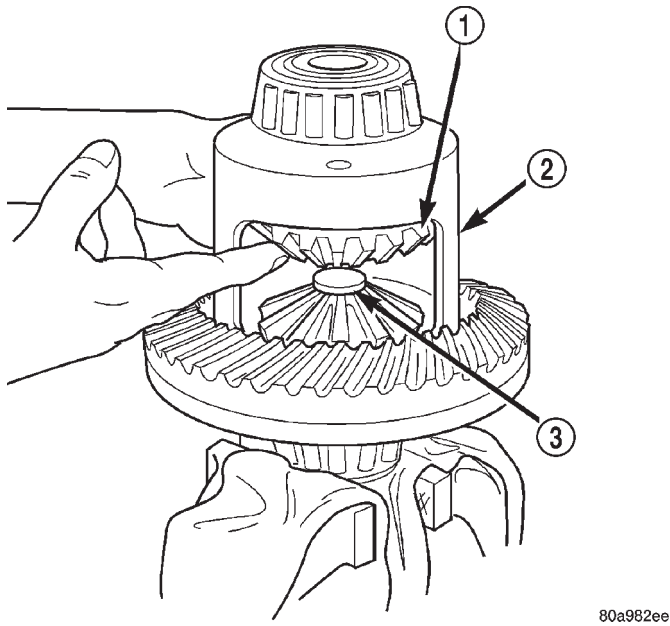

Fig. 50 Upper Side Gear & Clutch Disc Pack Installation
(5) Install lubricated Step Plate 8140-2 in lower side gear (Fig. 50).
(6) Install the upper side gear and clutch disc pack (Fig. 50).
(7) Hold assembly in position. Insert Threaded Adapter 8140-1 into top side gear.
(8) Insert Forcing Screw 6960-4.
(9) Tighten forcing screw tool to slightly compress clutch discs.